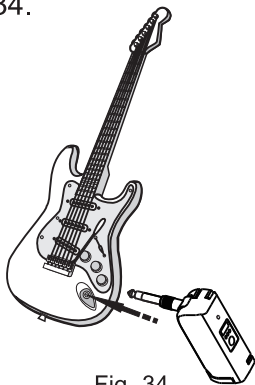

Fig. 34
(E) Plug the 6.3 Ø phone plug into any guitar, keyboard or other musical instrument output jack, Fig. 34.